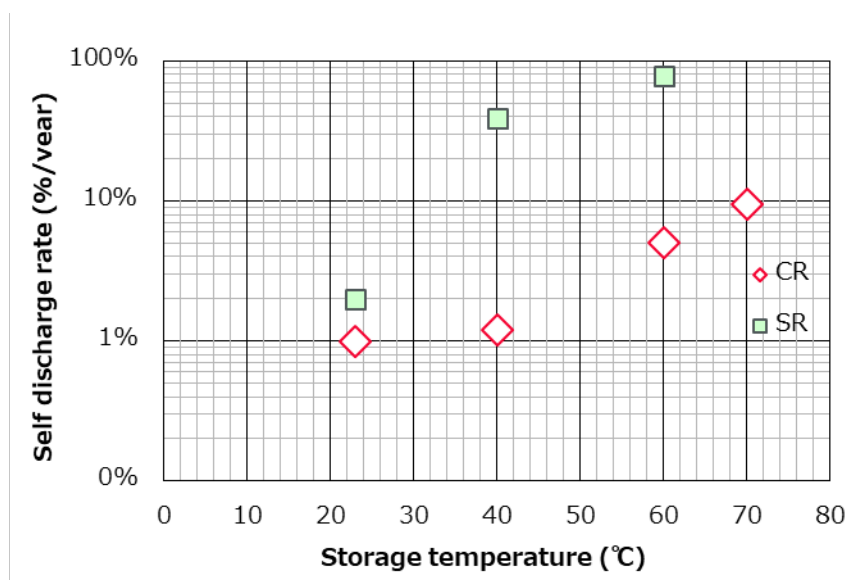

Fig.6 Self discharge by temperature of CR and SR (capacity loss rate / year)
- In coin manganese dioxide lithium battery, oxygen contained in the electrolytic solution inside the battery does not chemically react with anode electrode, so it does not cause deterioration at normal temperature. However, water in the air penetrates from the encapsulant and causes electrolysis of the water, so if they are left under high humidity environment, the capacity will deteriorate. Under high temperature (more than 60 °C) and high humidity environment, deterioration occurs due to the effect of volatilization of the electrolyte, so if the humidity is low and it is in a normal temperature environment, deterioration does not occur. Compared to other batteries, CR (Coin manganese dioxide lithium batteries) is characterized by long-term storage. Figure 6 shows the self-discharge (capacity loss rate / year) by temperature of coin manganese dioxide lithium battery (CR) and silver oxide battery (SR).